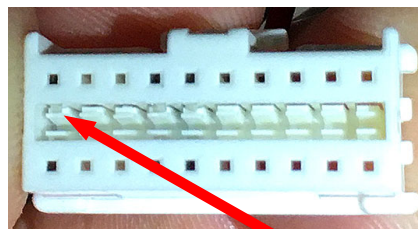

Figure 27
- d. The pins are held in with small tabs (see Figure 27).